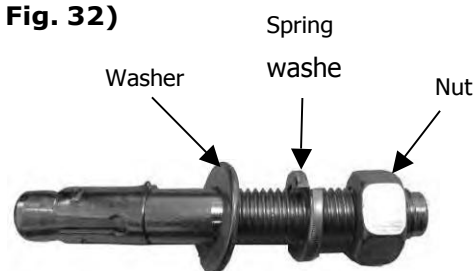

Fig.32
1. 1. Prepare the anchor bolts **(See Fig. 32)**